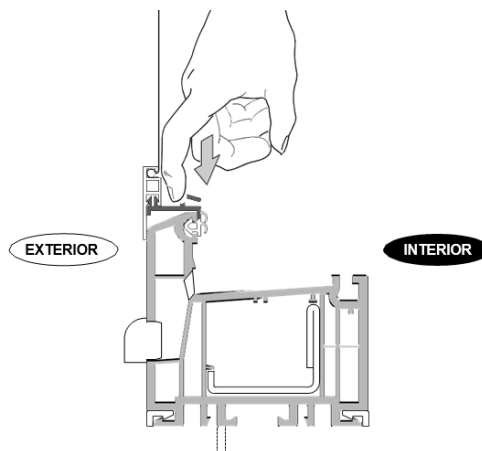

Figure 6-4. Locate clip between frame and seal, press down to locate clip
5. Now tilt at the top of the screen until the clips engage. The side clips may pop into place at the same time. If they don't, pull the clips towards the interior of the room, until they snap into place. The lip of the screen clip should be under the gasket against the frame itself. See fig. 6-4.